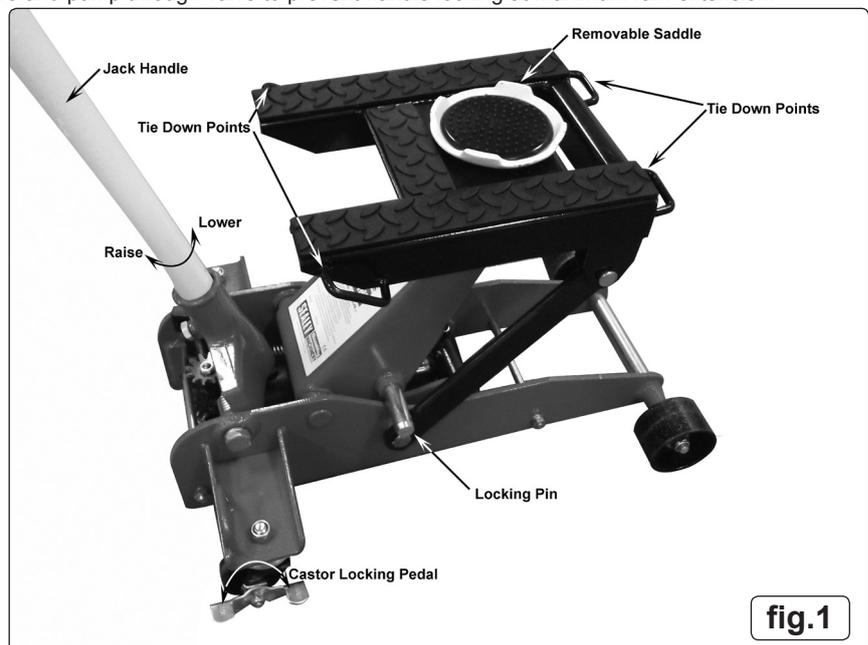

fig.1
- 3.1.2. Now test the jack by raising it to its full height and then lowering it. Rotate the jack handle (fig.1) gently to slowly lower the jack then turn the handle anticlockwise to the closed position ready for use.
- 3.2.1. Position the bike in a suitable area, checking that the surface on which the jack will stand is solid and flat (preferably concrete). Ensure there is good access and clearance beneath the bike for the jack to be wheeled under. Remove the circular saddle (fig.1).